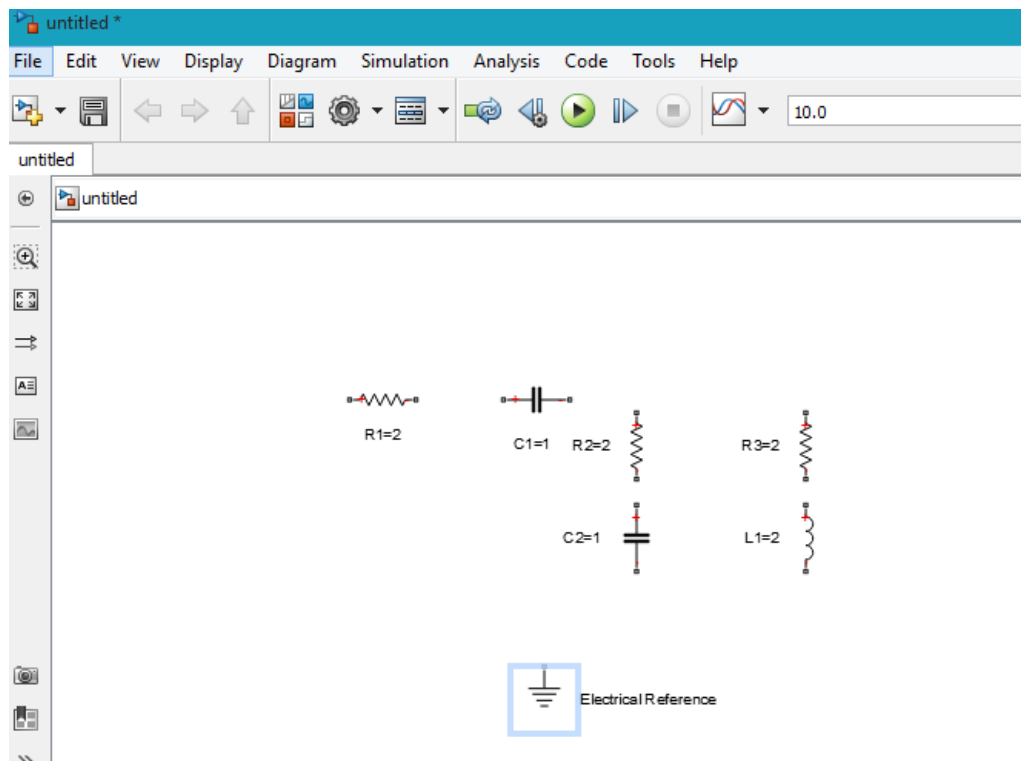

Figure 3.6: Selected Element, step 5
5. Orient the blocks as shown in the figure 3.6. To rotate a block, select it and press Ctrl+R.